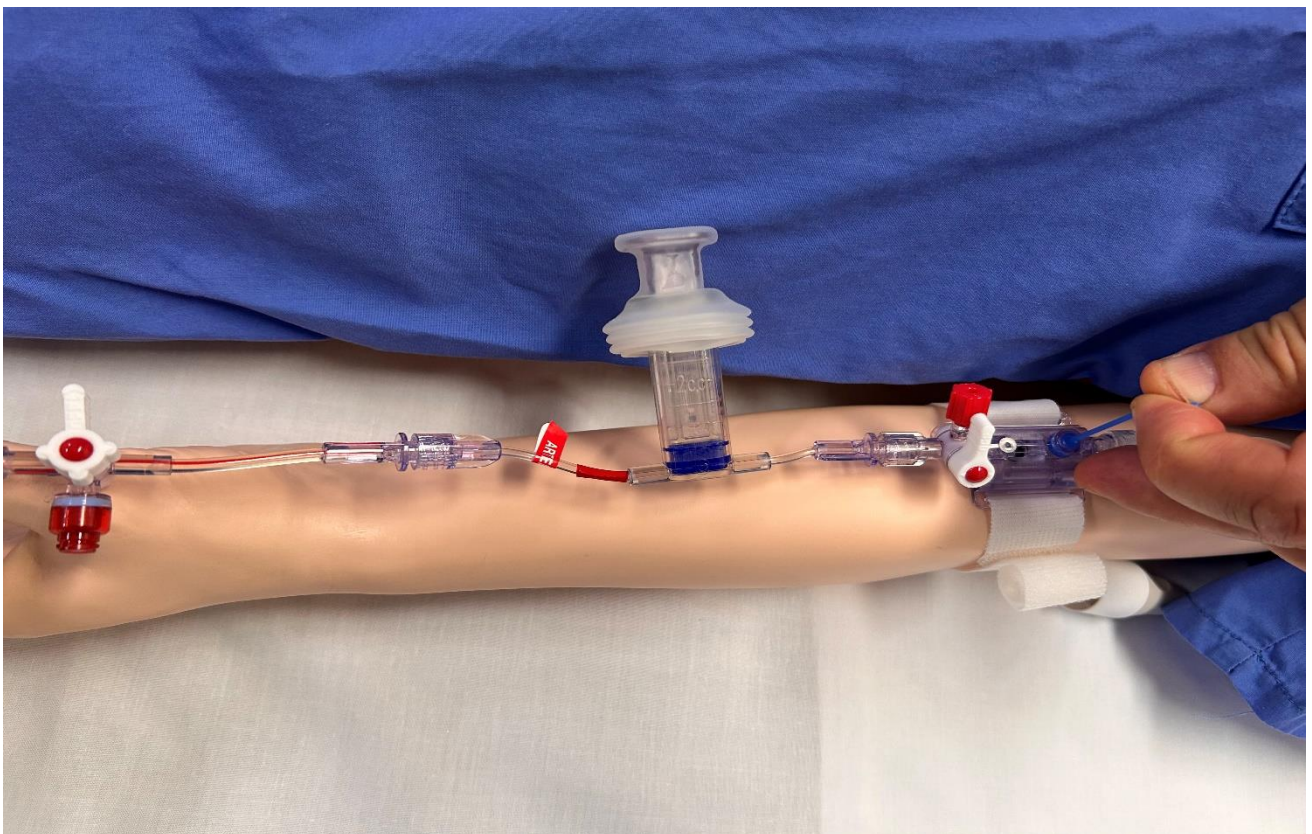

Figure 13.
9. Open both the three-way taps proximal & distal to the patient to flush. Flush the VAMP system clear by pulling the 'snap-tab' on the TruWave transducer (See Figure 13 below).